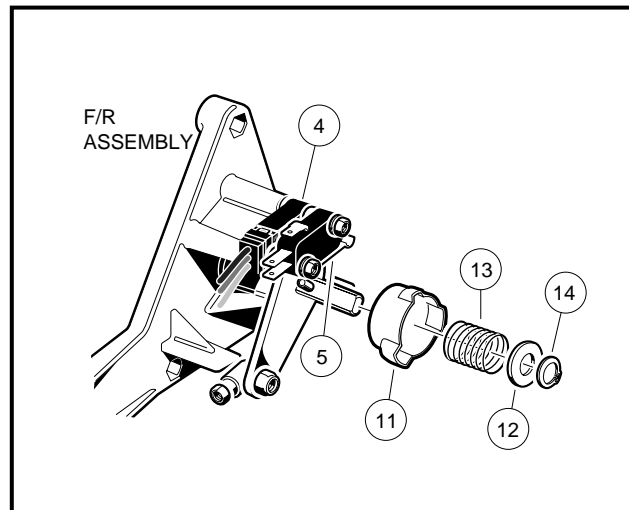

Figure 12-21 Lockout Cam
2. Remove the external snap ring (14) (**Figure 12-21, Page 12-19**).
3. Remove the plastic washer (12) and the spring (13).
4. Remove the cam (11).
1. Install the cam (11) (**Figure 12-21, Page 12-19**).
2. Install the spring (13) and the plastic washer (12).
3. Install the external snap ring (14) onto the shaft. Be sure the snap ring is installed in the groove on the shaft. Also be sure that the cam is installed so that the lockout limit switch is activated only when the Forward/Reverse handle is in the NEUTRAL position.